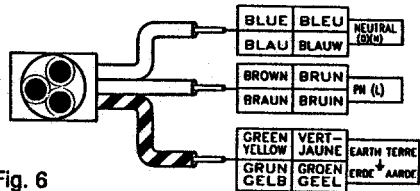

Fig. 6
3. The remaining wire coloured black or brown should be connected to the terminal marked with the character "P, L, or F". (See figure 6)